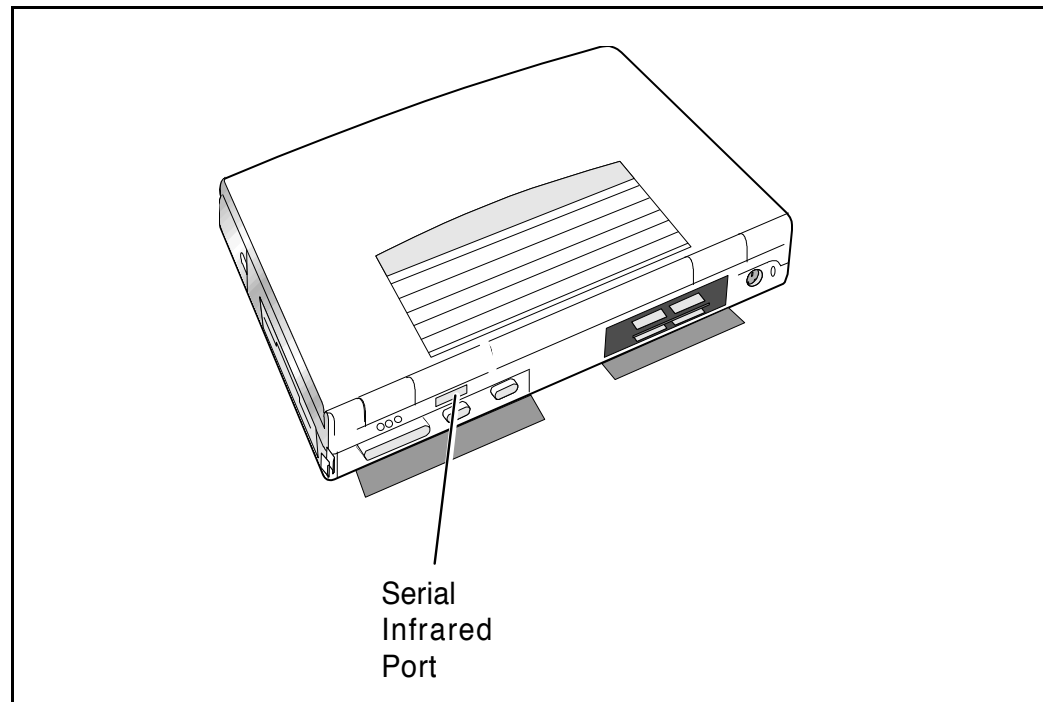

Figure 2-6 Communicating with SIR-Equipped Devices
The Serial Infrared (IR) port offers wireless communication with a variety of IRDA-compliant devices made by other manufacturers. Ensure that the third-party manufacturer supplies you with the appropriate IR drivers before attempting connection. As shown in Figure 2-6, the Notebook SIR port is located just above the serial port connector on the rear of the notebook. Align this port with the SIR port on a printer, notebook or other device equipped with an SIR port.